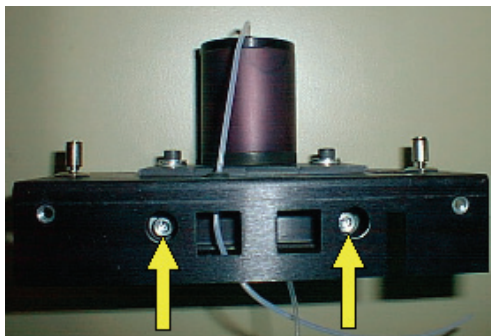

Figure 45 Adjustment screws
7. During data collection, adjust the two (1/8") Hex screws shown in Figure 45 until the maximum signal is observed.